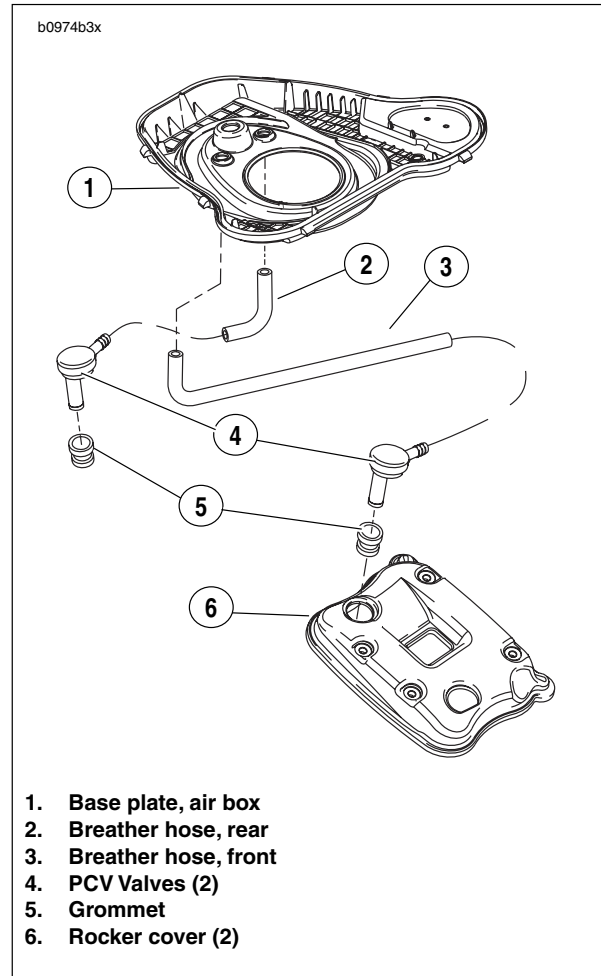

Figure 3-115. Crankcase Breathing System
See Figure 3-115. Air is allowed to escape the rocker boxes by exiting the positive crankcase vent (PCV) valves (4) located on top of the rocker boxes. From the PCV valves the air enters the crankcase breather hoses (2, 3). The crankcase breather hoses route through the air cleaner base plate (1) to the air box where it is directed inside the air filter element and back into the engine.